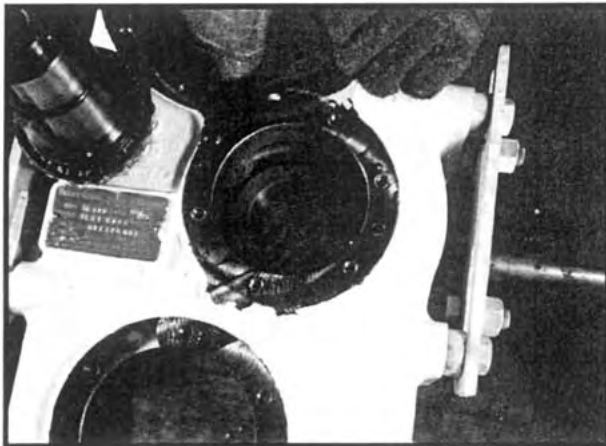

Fig 53
2. Heat the intermediate shaft gear and lower it into the transfer case housing through the upper shaft bore. Position the gear against the rear of the housing in line with the intermediate shaft bores. See Figure 53. Quickly lower the intermediate shaft assembly through the gear. Be sure that the gear is firmly seated against the shaft shoulder.